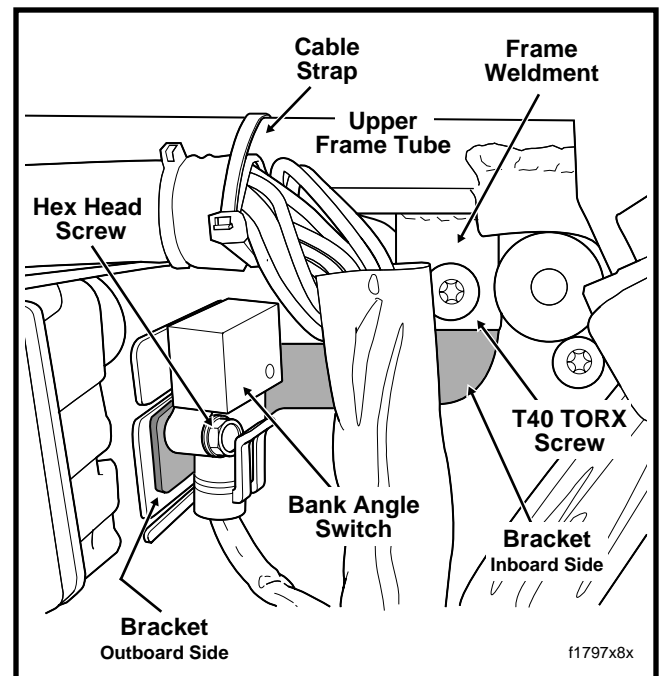

Figure 4. Re-Mount Bank Angle Switch
4. Position bracket so that weldnut is aligned with hole from which cable strap was removed. Properly positioned, bracket must be inboard of weldment with weldnut facing fender. Start T40 TORX screw through hole in frame weldment and into weldnut on bracket. See Figure 4.